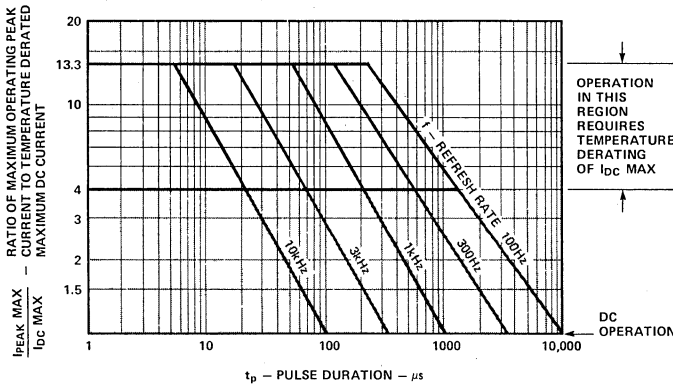
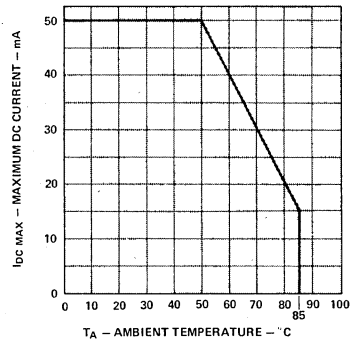

Figure 1. Maximum Allowable Peak Current vs. Pulse Duration.
Figure 2. Maximum Allowable DC Current per Segment vs. Ambient Temperature.
- Derate maximum DC current above T_A = 50°C at 1mA/°C per segment, see Figure 2.
- See Figure 1 to establish pulsed operating conditions.
Temperature derated strobed operating conditions are obtained from Figures 1 and 2. Figure 1 relates pulse duration (t_p), refresh rate (f), and ratio of maximum peak current to maximum dc current ($I_{\text{PEAK MAX}}/I_{\text{dc MAX}}$). Figure 2 presents the maximum allowed dc current vs. ambient temperature. To most effectively use Figures 1 and 2, perform the following steps:
- Enter Figure 1 at the calculated t_p . Move vertically to the refresh rate line and record the corresponding value of $I_{\text{PEAK MAX}}/I_{\text{dc MAX}}$.
- From Figure 2, determine $I_{\text{dc MAX}}$. Note: $I_{\text{dc MAX}}$ is derated above $T_A = 50^\circ\text{C}$.